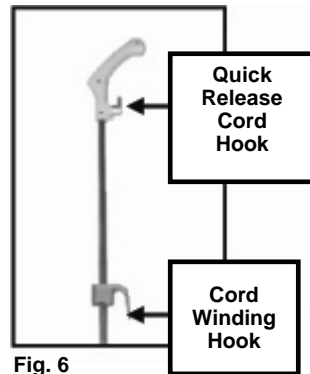

Fig. 6
- Wind power cord around the quick release cord hook and the cord winding hook. (Fig. 6) To unwind the power cord, simply twist the quick release cord hook to the left or right.